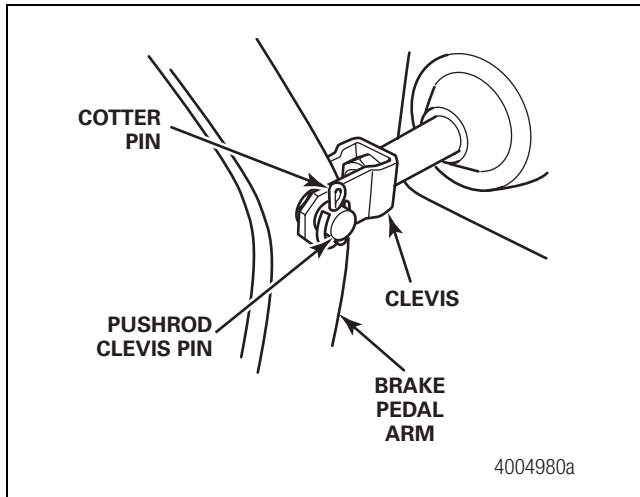

Figure 4.41
3. Connect the master cylinder pushrod clevis pin to the pedal assembly. The clevis pin must be installed into the same hole on the brake pedal as it was before the old master cylinder was removed. Secure the cotter pin. Figure 4.41.